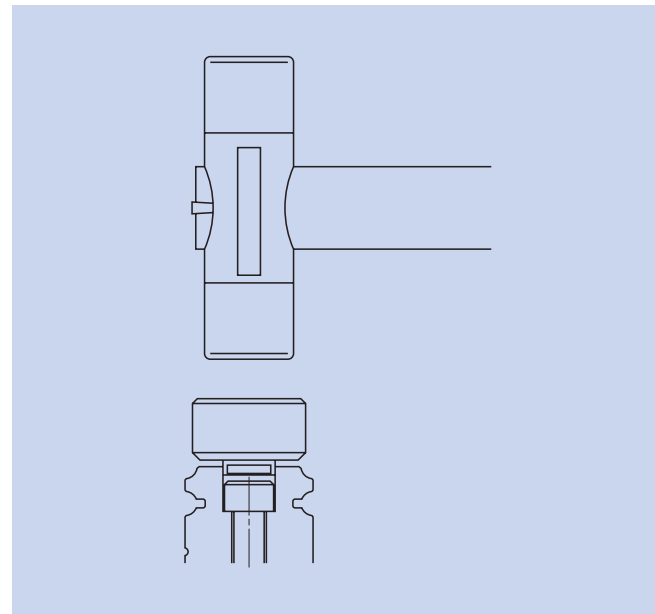

Fig. 18
- To insert the cap into the rail bolt hole, use a flat dolly block (Fig. 18). Pound the cap gradually until its height becomes flush with the rail top surface.